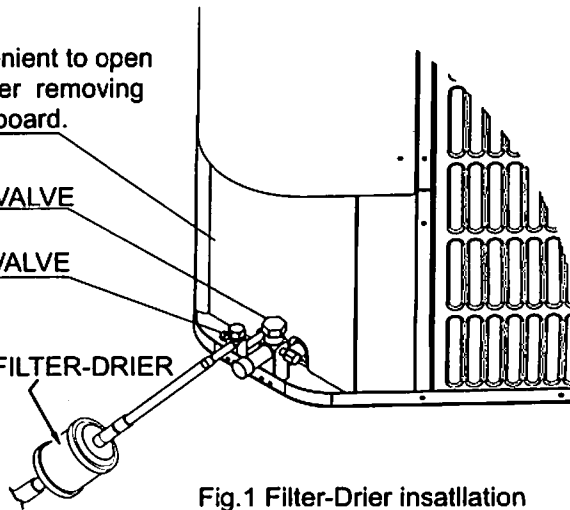

Fig.1 Filter-Drier insatllation
- A liquid-line filter drier is required on every unit. see the Fig.1